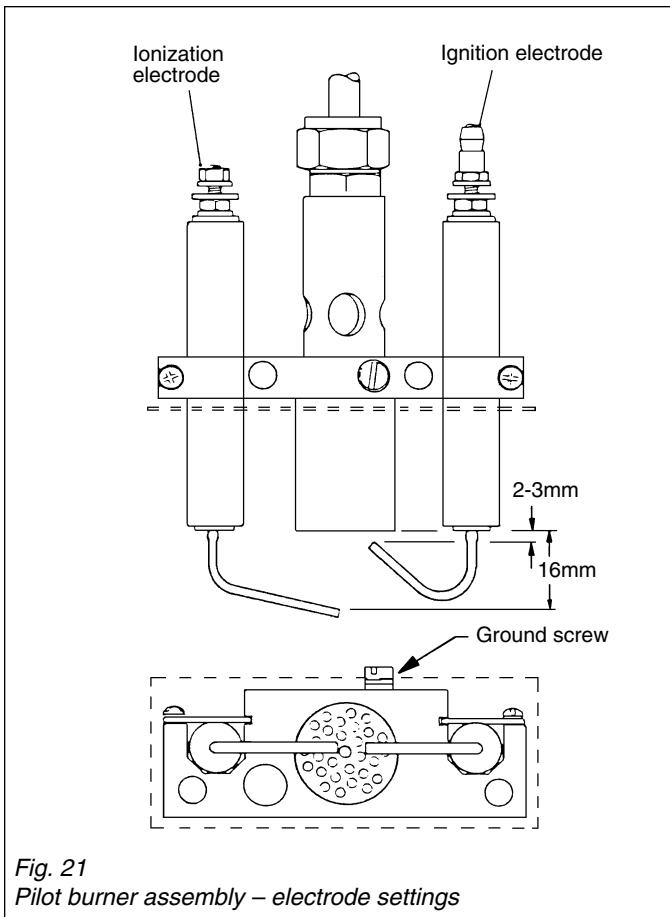

Fig. 21
- b) Inspect pilot burner, ionization probe and spark electrode, making sure that they are in a sound and clean condition. In particular check that ignition electrode is clean and undamaged, and that the spark gap is 2-3 mm, ionization and ignition leads are not broken, chafed or burnt. Clean the pilot orifice, do not broach out with wire (see Fig. 21).